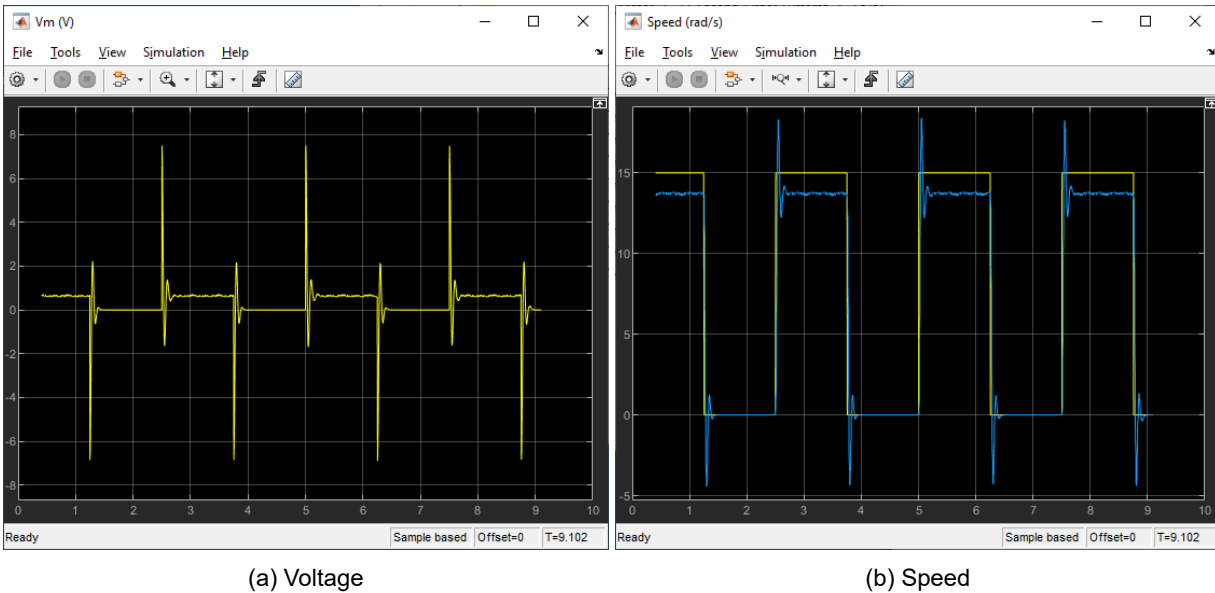

Figure 2.4: Steady-state error with 15rad/s amplitude step and $k_p = 0.5$
7. The voltage and speed scope should look similar to the response shown in Figure 2.4. Attach the speed response of the servo you obtained.